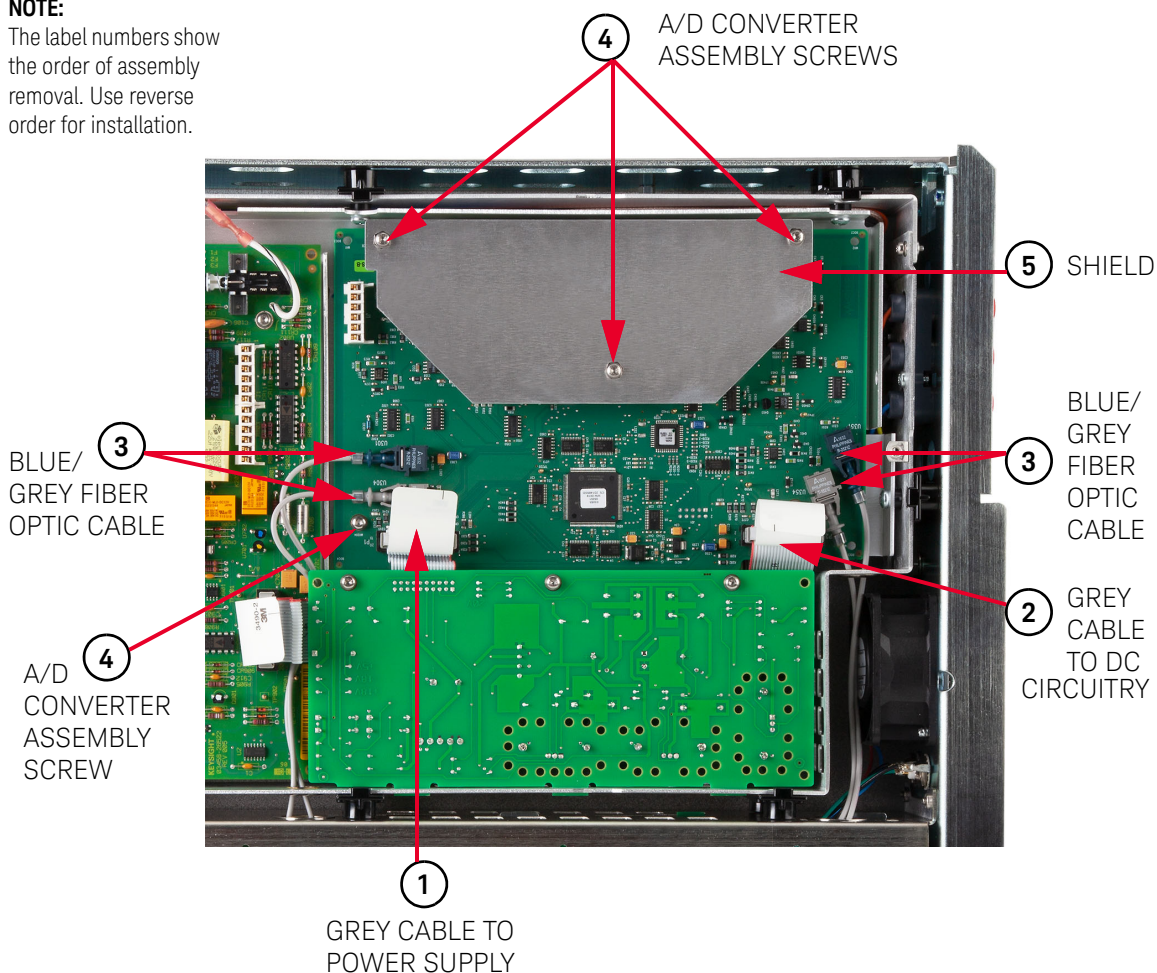
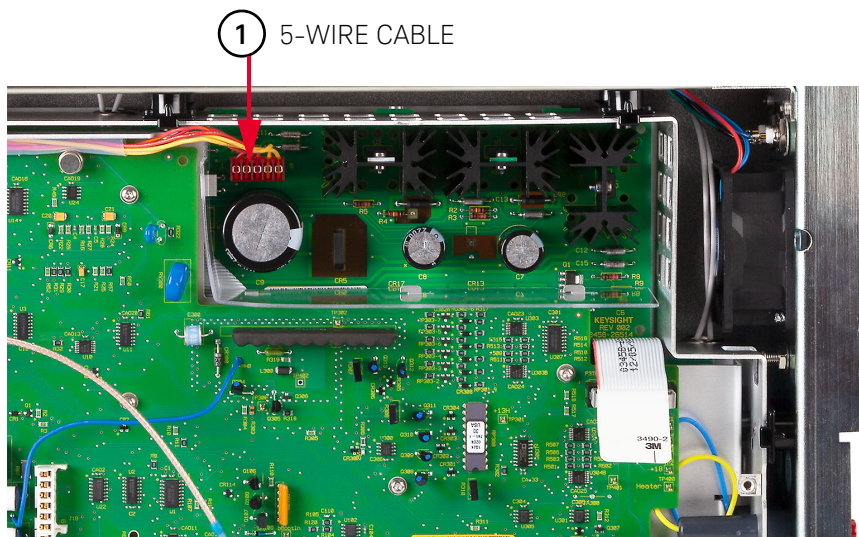

Figure 3-11 A/D converter and inguard logic assembly
Figure 3-12 Remove/Install transformer cable on inguard power supply
Refer to Figure 3-11 for the following procedures.
The label numbers in **Figure 3-11** and **Figure 3-12** show the order assembly removal. Use reverse order for installation.
- 3 Refer to Figure 3-12. Unplug the 5-wire cable from the Inguard Power Supply assembly. This cable is connected to the power transformer.
- 7 Refer to Figure 3-12. Locate the cable connected to the power transformer. Line up the cable plug with the socket on the Inguard Power Supply assembly. Then plug the cable in.